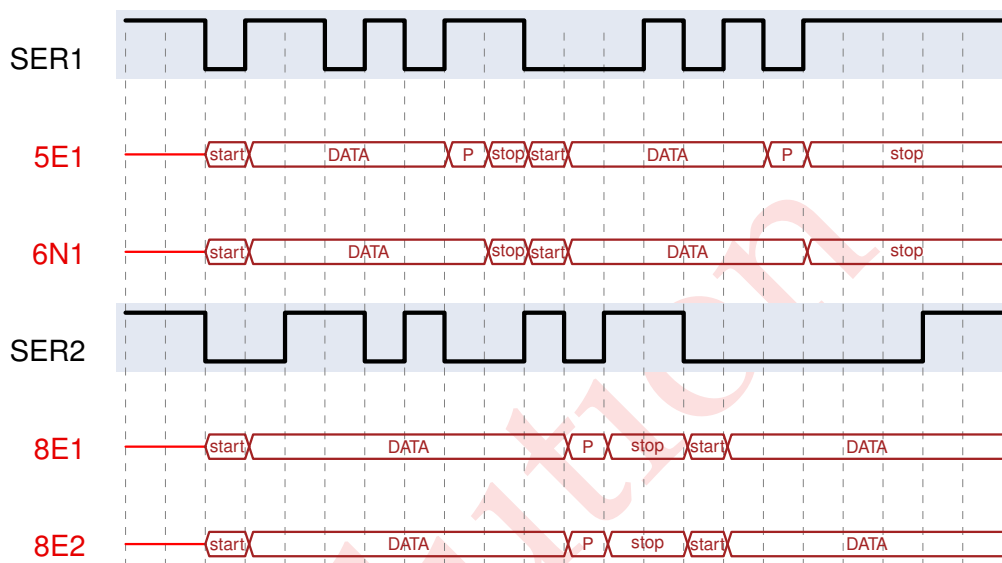

Figure 1.1: Serial interface pulse diagram
In the figure 1.1 the pulse diagram of a RS232 interface is given. Different transmission frames have been used for the communication. A transmission frame is composed of a start bit ('0'), 5-8 data bits, no (N, none) or one bit for even (E, even) or odd (O, odd) parity, as well as at least 1 or 2 stop bits ('1'). Possible frame formats are $[5..8][N,O,E][1,2]$, for example 8N1 for 8 data bits, no parity bit and at least 1 stop bit.
- 1.1 Give all possible frame formats for the pulse sequences as shown in figure 1.1. All given pulse sequences are describing a correct transmission. Start of a transmission is always the startbit in the third timestep.